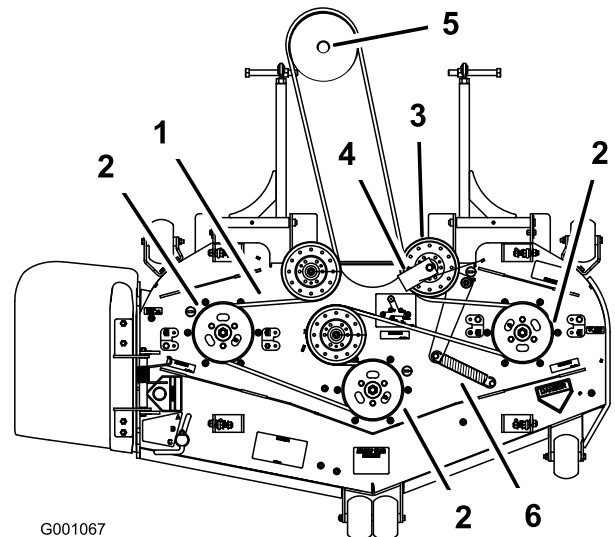
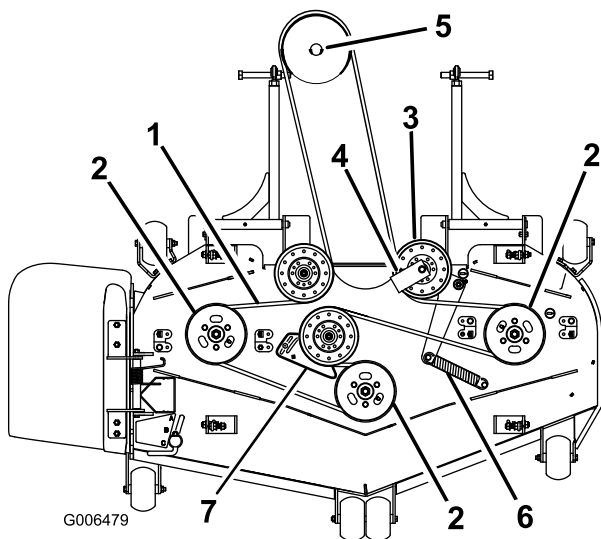
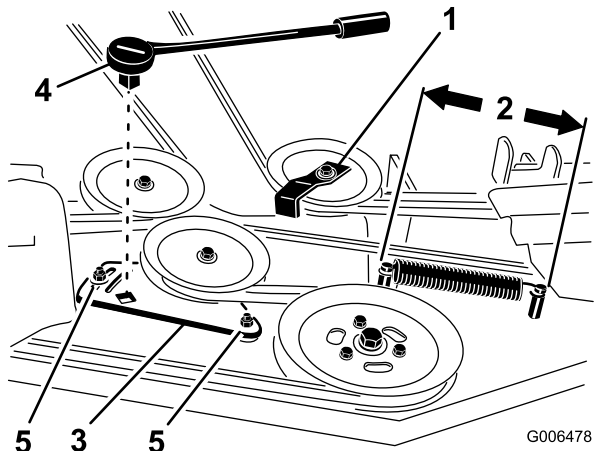

Figure 55
Figure 57
Figure 59
6. Install the new belt around the mower pulleys and the gearbox pulley under the engine (Figure 55).
7. Install spring to the idler arm (Figure 55).
8. Install the belt guide on the spring loaded idler at a 45 degree angle as shown in Figure 55.
4. Loosen the idler plate bolts holding the idler plate (Figure 59).
6. Remove the belt guide on the spring loaded idler pulley shown in Figure 57 and Figure 59.
8. Install the new belt around the mower pulleys and the gearbox pulley under the engine (Figure 57).
9. Install the belt guide on the spring loaded idler at a 45 degree angle as shown in Figure 55 and Figure 59. Torque the bolt to 27 to 33 ft-lb (37 to 45 N-m).
10. Install the idler spring to the two posts (Figure 55 and Figure 59).
4. Measure the spring length (Figure 59). If the spring length is between 10 and 10-1/4 inches (25.4 and 26.0 cm), from post to post, no adjustment is needed.
5. Loosen the bolts holding the idler plate (Figure 59).
6. Insert a ratchet or breaker bar into the square hole in the idler plate to adjust the tension (Figure 59).
7. Rotate the ratchet or breaker bar to move the idler plate until the idler spring is between 10 and 10-1/4 inches (25.4 and 26.0 cm) from post to post as shown in Figure 59.
8. While holding the belt tension and spring length, tighten the idler plate bolts that secure the idler plate (Figure 59).